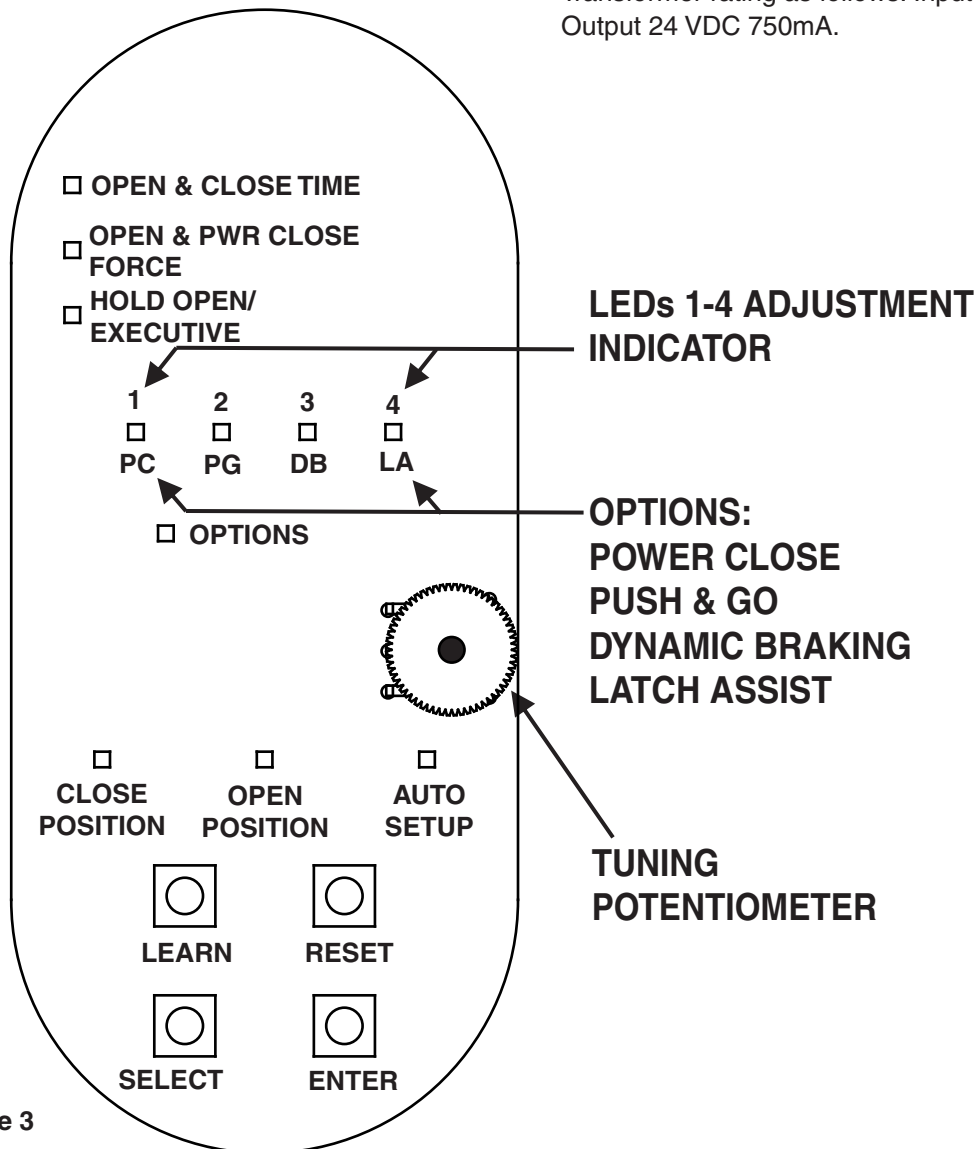

Figure 3
- **Door Controller:** Contains the hardware and software necessary to control the motion of the door. Figure 3 illustrates the door controller circuit board controls and indicators.